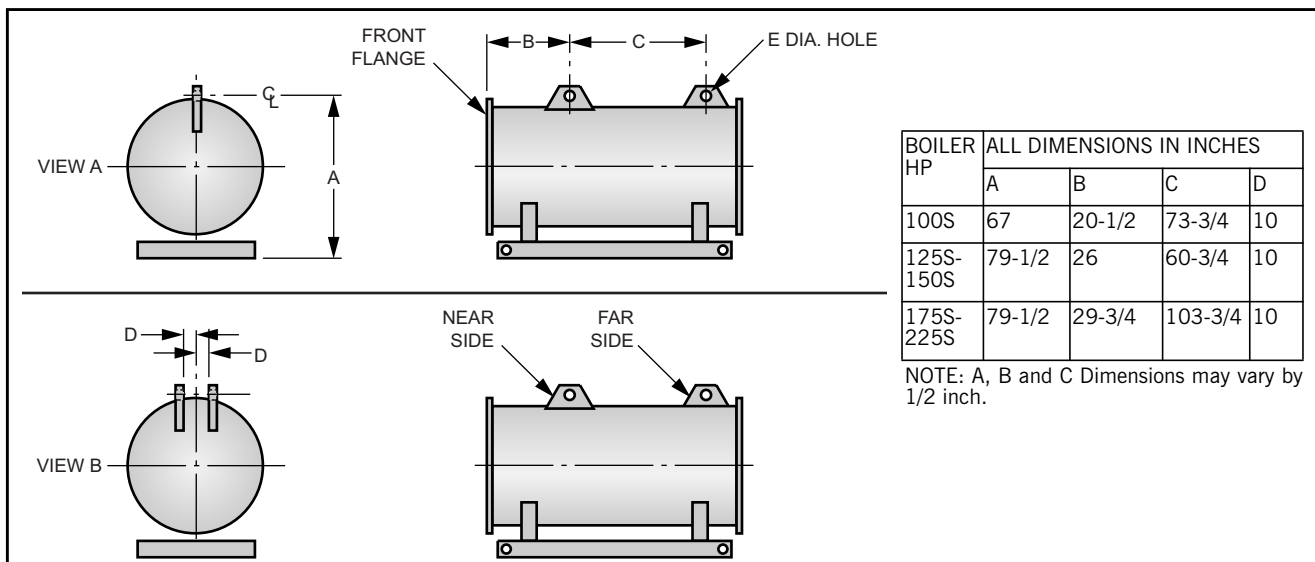

Figure 2. Model CB Ohio Special Boilers Lifting Lug Location
- Figure 2. Lifting Lug Locations, Model CB Ohio Special Boilers.